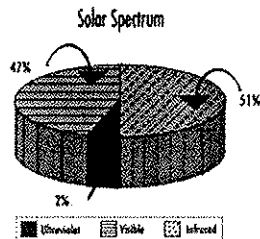

Figure 1
The solar spectrum, commonly referred to as sunlight, consists of ultraviolet light (UV), visible light and infrared (IR). The energy distribution within the solar spectrum is approximately 2 percent UV, 47 percent visible light and 51 percent IR (see Figure 1). One aspect of the solar spectrum is its wavelength in which nanometer (nm) is the unit of length [$1 \text{ nm} = 10^{-9} \text{ m}$].